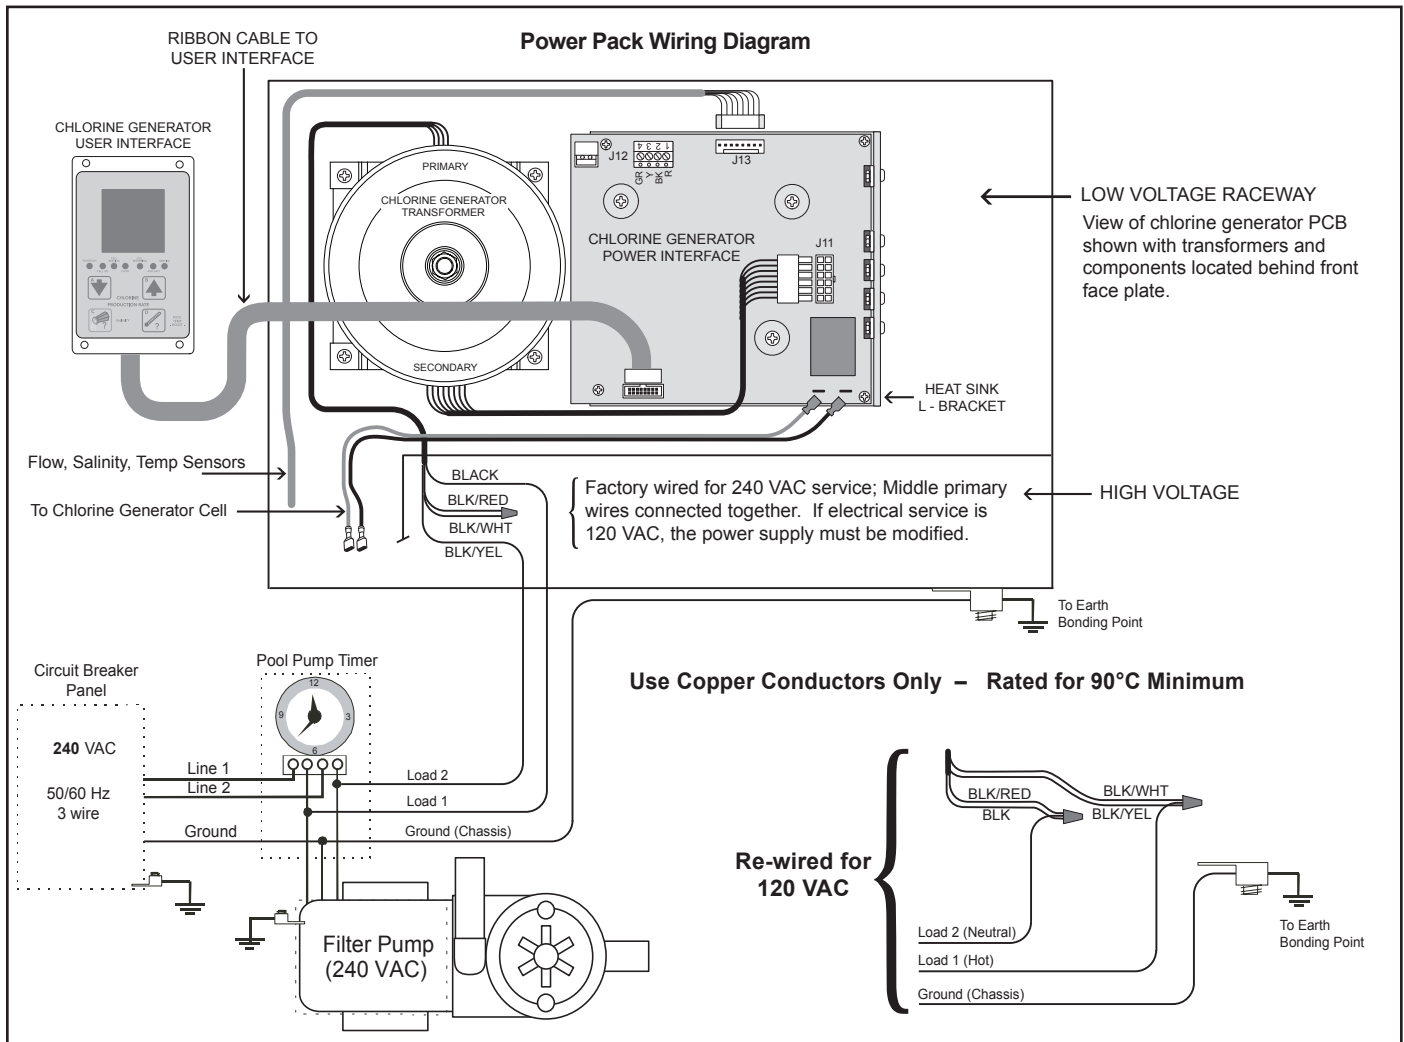
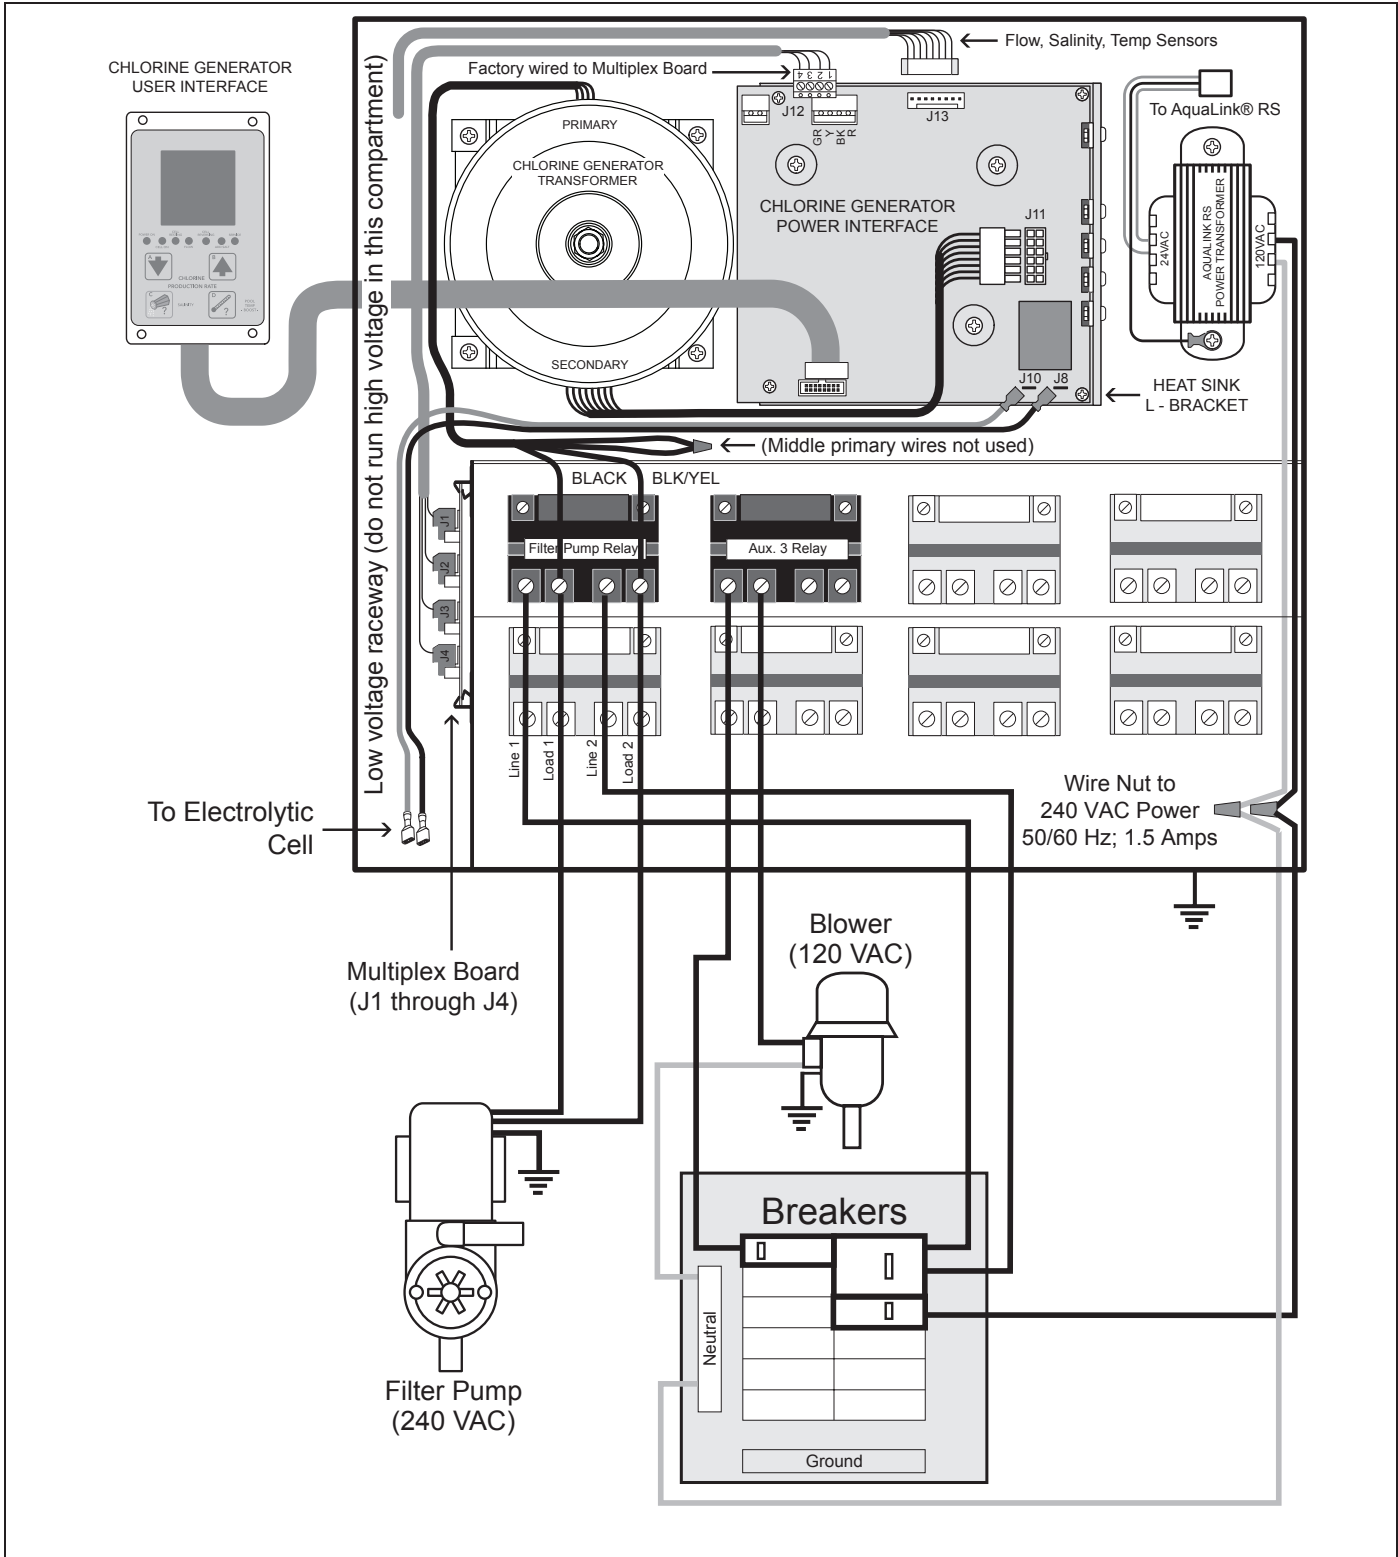

Figure 11. Wiring Diagram for the Power Pack
Figure 12. Wiring Diagram for the AquaLink® RS PureLink™ System with connection to 240 VAC Filter Pump
- Check source voltage. (All units are factory wired for 240 VAC). ***In order to use on 120 VAC, the internal factory wiring of the power center must be changed. (see Figure 11 and Figure 13).***
3. Install the strain relief provided with the vessel kit into the low voltage knock out at the power pack. Feed the connector end of the flow/temp/salinity sensor cable through the DC cord strain relief fitting. **Be certain the connector is clean and dry**, then plug the cable into the connector on the power center printed circuit board as shown in Figure 11, Figure 12 and Figure 13. **(Do not pull flow/temp/salinity sensor cable too tight, allow some slack).**
5. Connect the DC cord to the power center. Feed the DC cord through the same strain relief fitting as the flow/temp/salinity sensor at the power pack. Plug the DC cord into the two (2) spade connectors of the wiring harness located in the low voltage raceway of the control/power center, see Figure 11, Figure 12 and Figure 13. This wiring harness establishes the connection between the cell and the power interface board.
- If the ribbon cable connecting the user interface to the power interface board was disconnected during installation then reconnect before reattaching cover (see Figure 11, Figure 12 and Figure 13).
Wire the PureLink power center transformer to the load side of the filter pump relay. See Figure 12 and Figure 13.